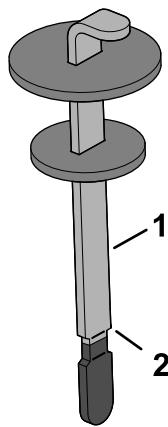

Figure 169
4. Remove the dipstick from the filler neck and wipe it with a clean rag. Insert the dipstick into the filler neck; then remove it and check the level of the fluid. The fluid level should be up to the mark on the dipstick (Figure 169).